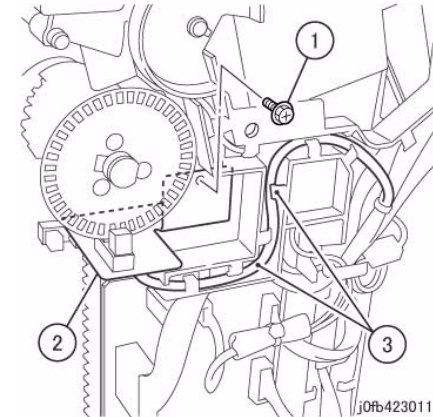

Figure 4 Sensor
7. Remove the Stacker Encoder Sensor together with its bracket. (Figure 4)